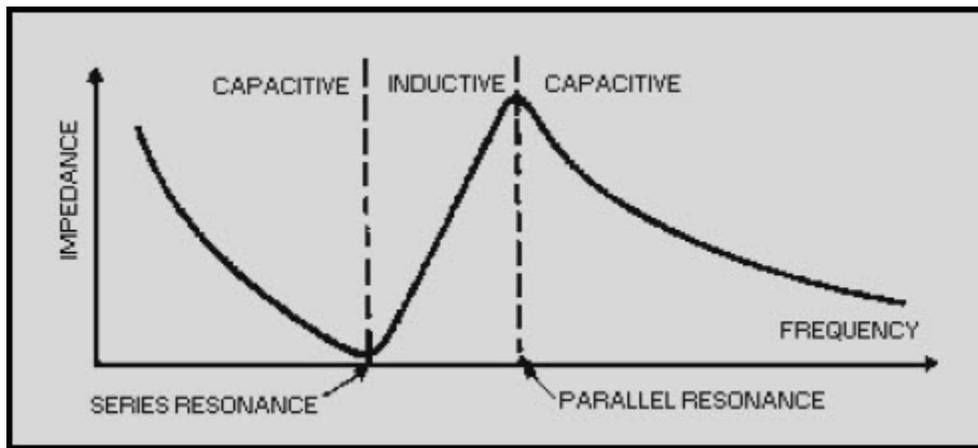

Figure 2-21 Frequency response of a crystal
At some frequency, the reactances of equivalent capacitor C1 and inductor L will be equal and the crystal will act as a series-tuned circuit. A series-tuned circuit has a minimum impedance at resonance (figure 2-21). Above resonance the series-tuned circuit acts **INDUCTIVELY**, and below resonance it acts **CAPACITIVELY**. In other words, the crystal unit has its lowest impedance at the series-resonance frequency. The impedance increases as the frequency is lowered because the unit acts as a capacitor. The impedance of the crystal unit also increases as the frequency is raised above the series-resonant point because the unit acts as an inductor. Therefore, the crystal unit reacts as a series-tuned circuit.
Since the series-tuned circuit acts as an inductor above the resonant point, the crystal unit becomes equivalent to an inductor and is parallel with the equivalent capacitor C1 (view (B) of figure 2-20). At some frequency above the series-resonant point, the crystal unit will act as a parallel-tuned circuit. A parallel-tuned circuit has a **MAXIMUM** impedance at the parallel-resonant frequency and acts inductively below parallel resonance (figure 2-21). Therefore, at some frequency, depending upon the cut of the crystal, the crystal unit will act as a parallel-tuned circuit.